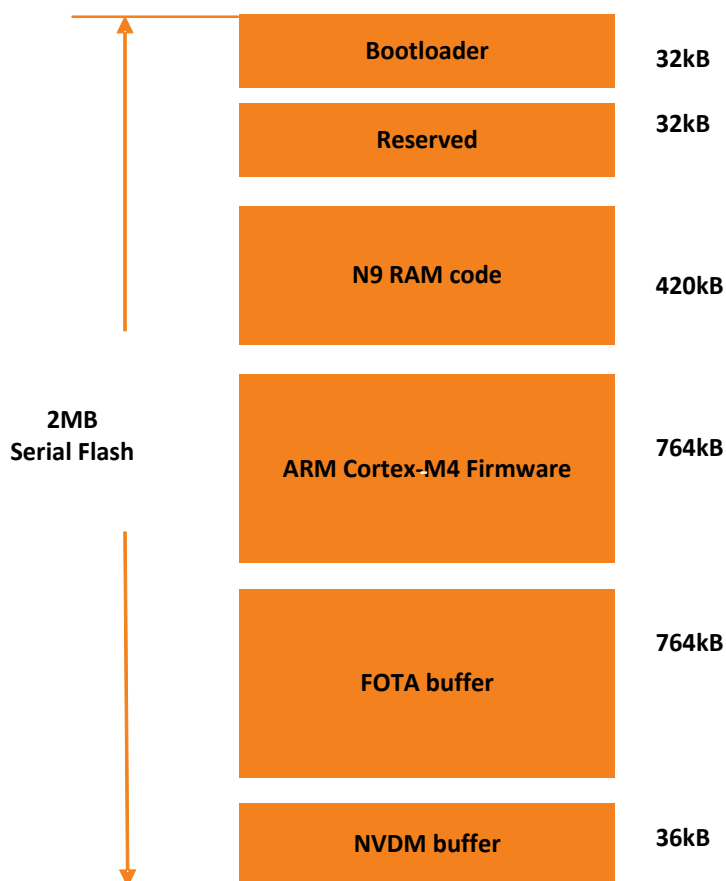

Figure 3-1. The load view of the 2MB flash memory layout
MT7687F has 2MB internal serial flash memory. The load view on the flash memory of the HDK is shown in Figure 3-1.
- **Non-Volatile Data Management (NVDM) buffer.** There are two blocks reserved for the NVDM buffer management. The first NVDM buffer after the Bootloader (see Figure 3-1) is not configurable, but the second NVDM buffer is configurable, Refer to Section 3.1.4 for more details.
NVDM buffer	The first NVDM buffer located after the Bootloader is not configurable, no need to modify. The second NVDM buffer starting address and size are configurable (see Figure 3-1).